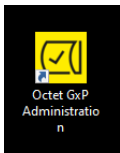

Figure C-1: Octet® GXP Server Administration Desktop Shortcut
- Double-click the Octet® GxP Server Administration Desktop Shortcut (Figure C-1):
The Octet® GxP Server Administration tool can be installed on the primary Octet® GxP Server computer as well as other client computers to enable remote administration. To install the administration client on additional computers, follow the instructions for Installing the Octet® GxP Server module, and choose ONLY the Octet® GxP Administration component during setup (Figure C-1).